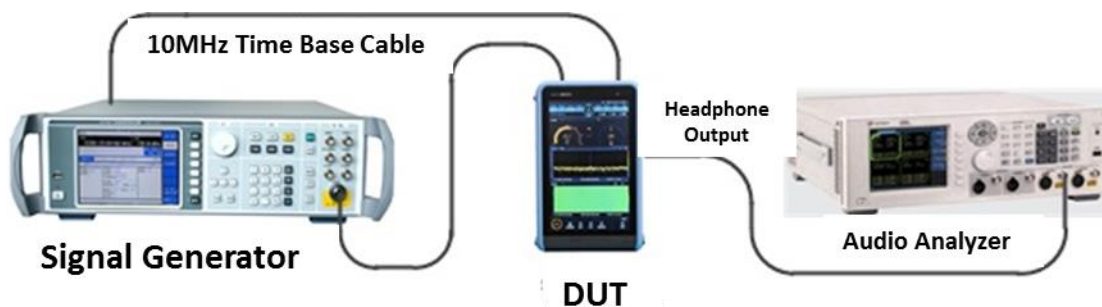

Fig. 8.8 Schematic diagram of FM demodulation sensitivity test
1) Connect the test equipment according to Fig. 8.8, the equipment to be tested and the synthesized signal generator common time base; the headphone interface of the equipment to be tested is connected to the input channel interface of the audio analyzer.